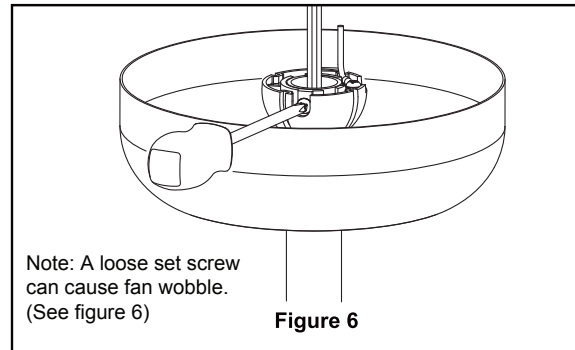

Figure 6
- Note: A loose set screw can cause fan wobble. (See Figure 6)